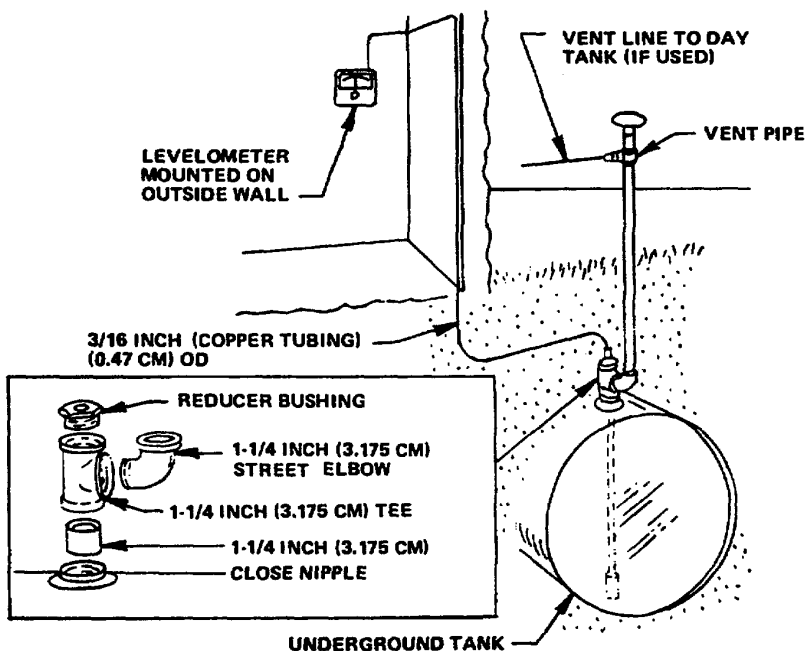

Figure 17-19. 500 KW Levelometer System Installation
**17-69.** A typical levelometer system is shown in figure 17-19. Levelometers should be used only with vented tanks.